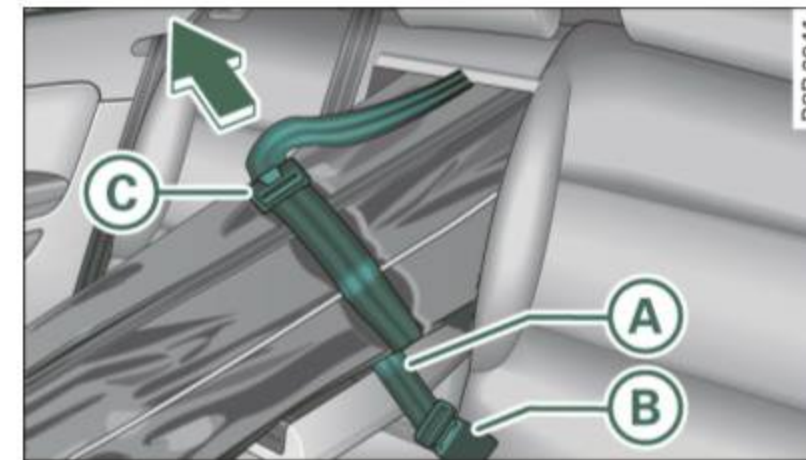

Fig. 111 Securing the ski sack at the center rear seat belt buckle
- Insert the ski sack strap ⇒ *page 111, fig. 111* **(A)** into the center seat belt buckle **(B)**.
- Take the long sides of safety strap buckle between thumb and forefinger ⇒ *page 111, fig. 111* **(C)**.